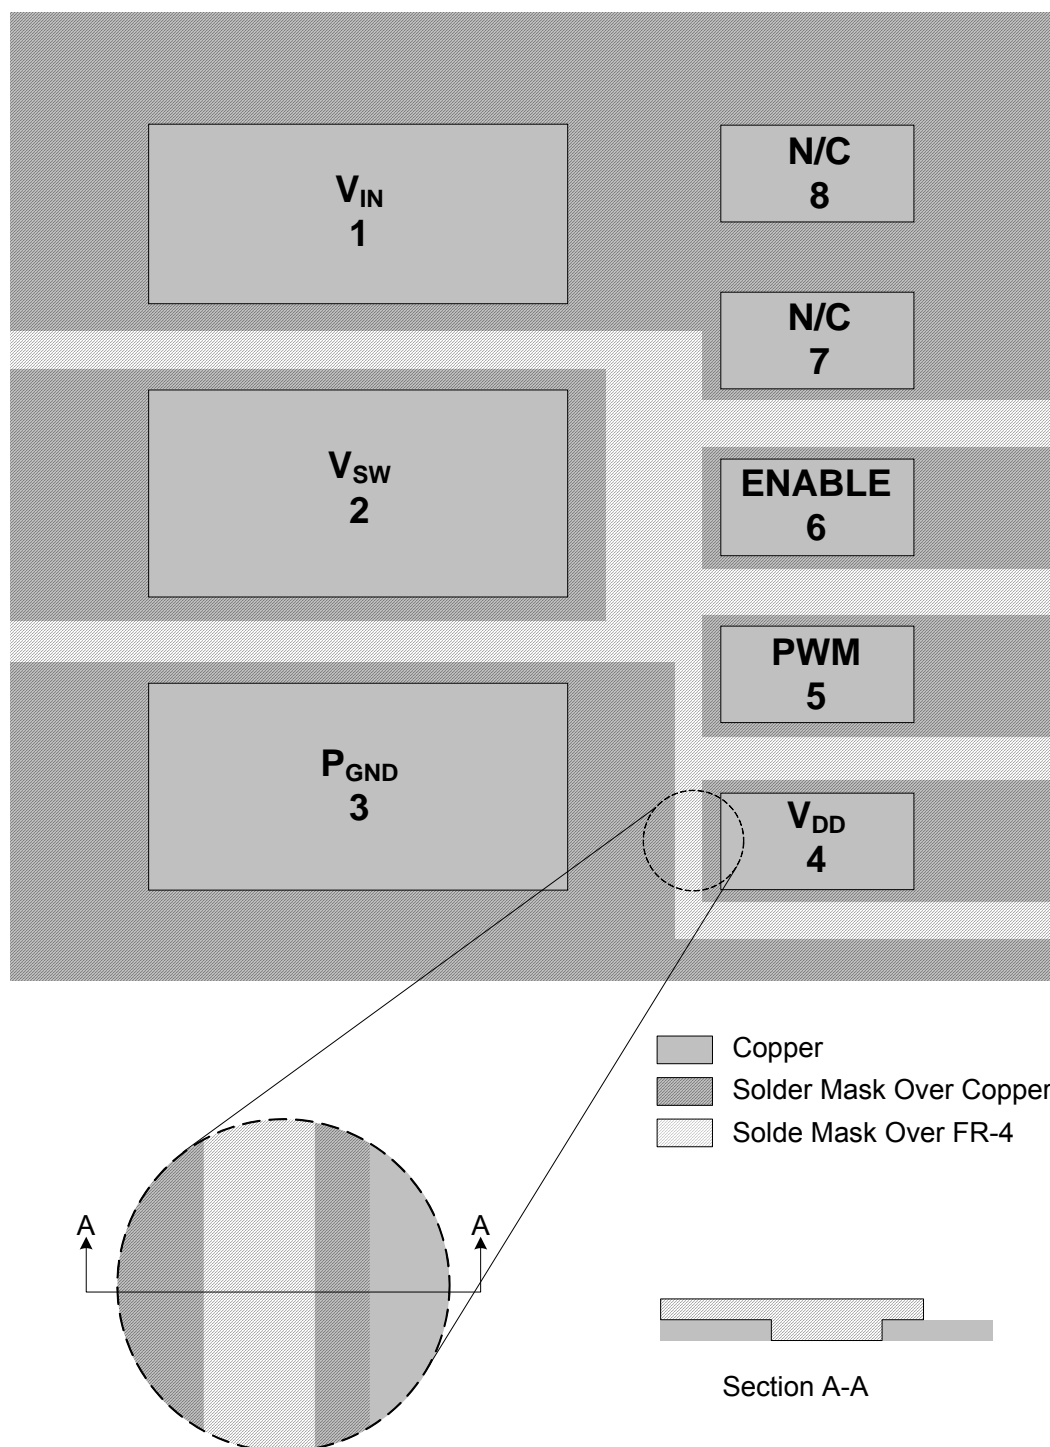

Figure 13 Top copper and Solder-mask layer of PCB layout
- All pads on the iP2005C footprint design need to be Solder-mask defined (see Figure 13). Also refer to International Rectifier application notes AN1028 and AN1029 for further footprint design guidance.